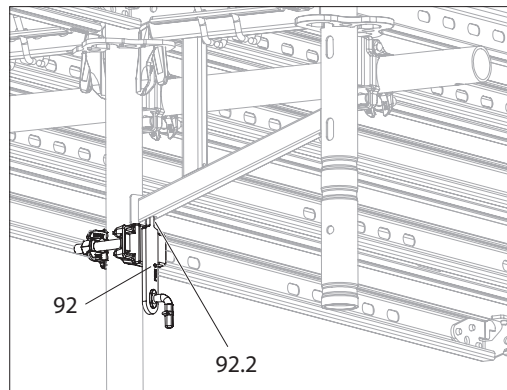

Fig. A6.09
1. Fit Guardrail Coupling EPW (92) with lug (92.2) facing upwards. Nose must engage in the brace of the console bracket. (Fig. A6.09)